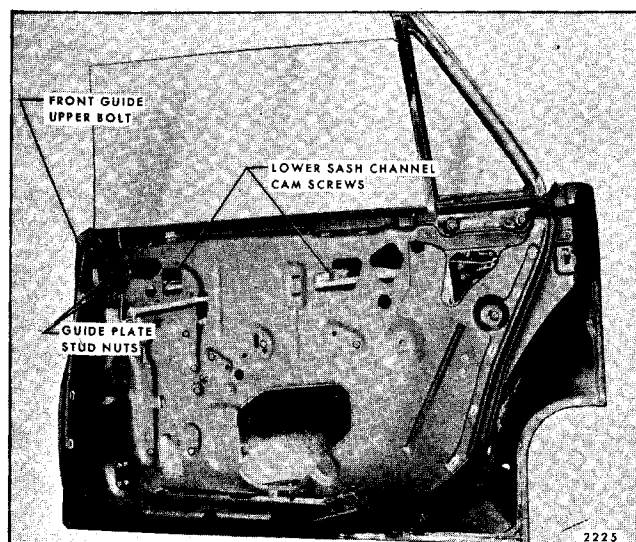

Fig. 7-141—Rear Door Window Removal - 68069-68169 Styles
3. Lower glass approximately 2" and remove lower sash channel cam attaching screws (Fig. 7-141).
- b. Front guide upper attaching bolt (Fig. 7-141).